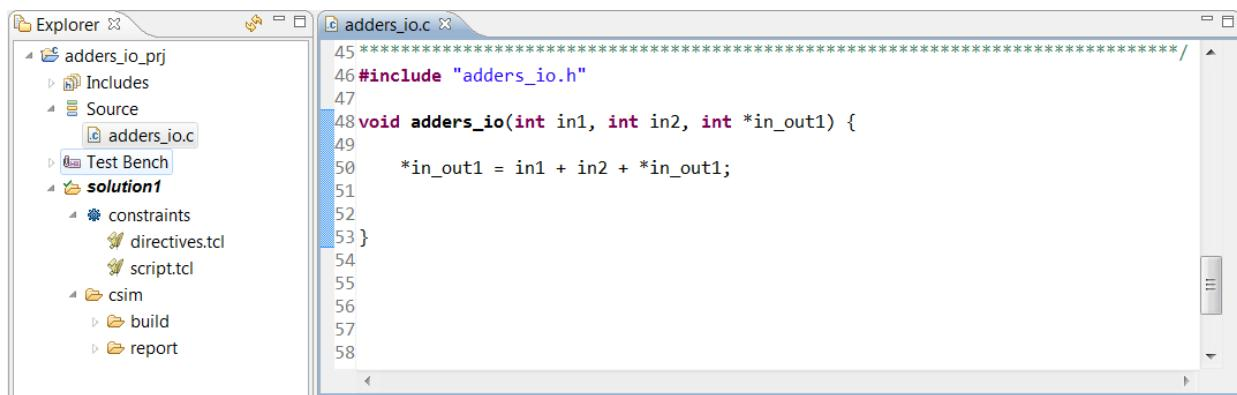

Figure 4-11: C Code for Interface Synthesis Lab 2
4. Open the source code as shown in Figure 4-11.
For the code shown in Figure 4-11, the possible options for each function argument are described in Table 4-2.